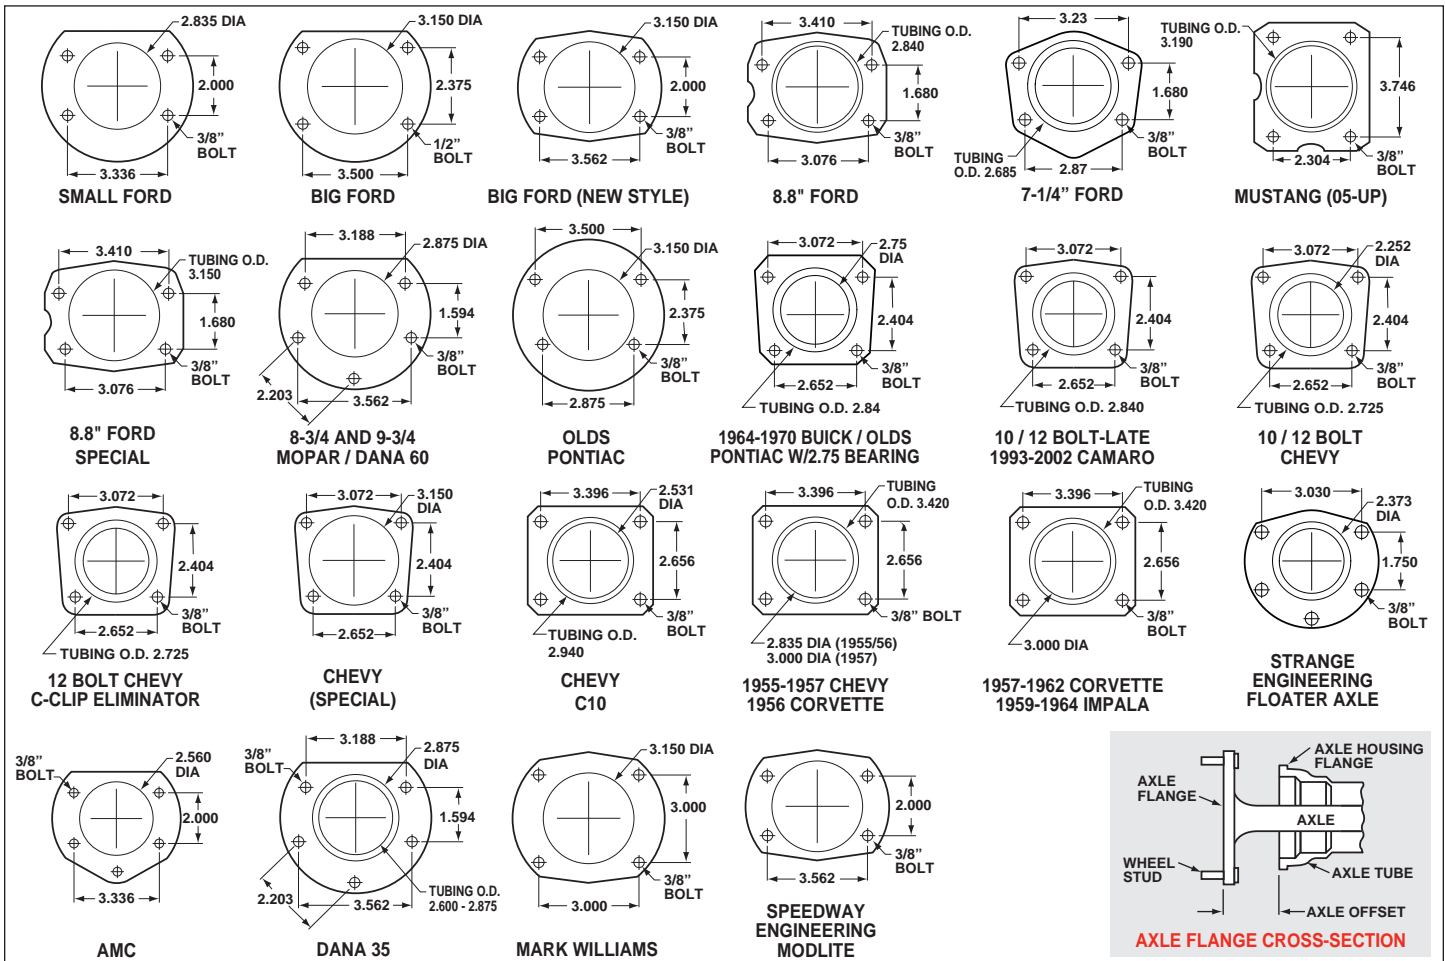

Figure 9. Rear Housing Flange Chart and Axle Flange / Offset Cross-Section
- Dimension from wheel side of axle flange to wheel side of axle housing flange (see Figure 9, lower right hand corner). This dimension is critical to ensure proper alignment of the rotor to the caliper, and should match offset given in the kit description.